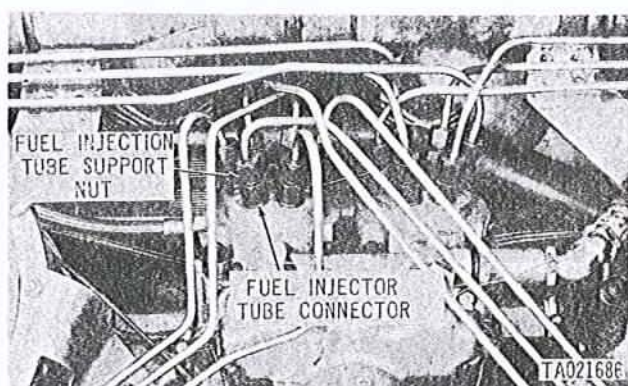

Figure 2-39. Removing or installing fuel injector tubes from fuel injection pump.
(12) Loosen 12 fuel injector support nuts (fig. 2-39) and disconnect 12 fuel injector tube connectors from fuel injection pump. Remove fuel injector tubes and install caps (1, fig. 2-40) in fuel injection pump tube openings.